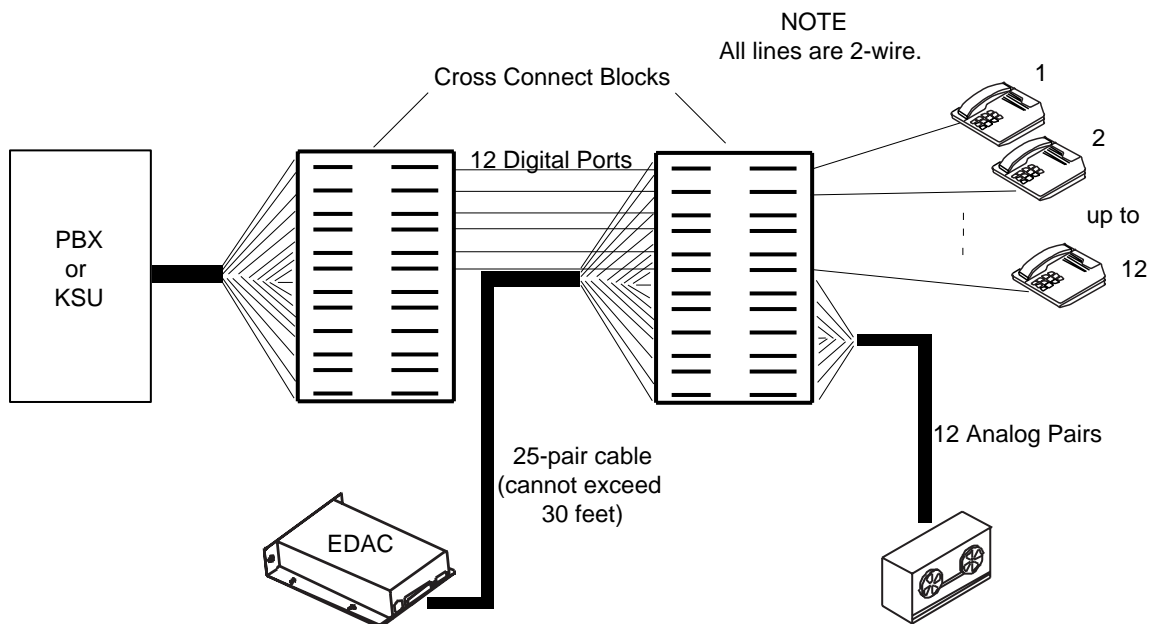

Figure 24. Typical Cross Connection Diagram for One Base Unit with 12 Port Cards
- b. Using Table 12 and Figure 24 as guides, cross connect the required quantity of EDAC digital input pairs in parallel with the digital telephones to be monitored. The EDAC digital input is not polarity sensitive, so “Tip to Tip” or “Tip to Ring” can be connected. Up to 12 digital telephones may be connected to the 25-pair connector if relay cards are not used or up to eight per connector if relay cards are required.